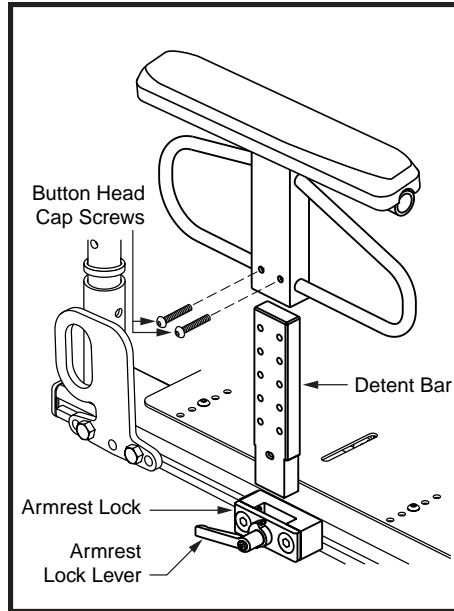

Figure 16. Heavy Duty Drop-In Armrest Height Adjustment
1. Rotate the armrest lock lever rearward and remove the armrest from the armrest lock. See figure 16.
2. Remove the two (2) button head cap screws from the side of the armrest.